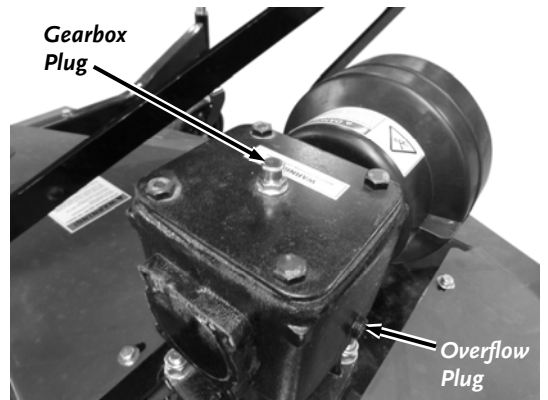

Figure 38
1. Remove the Gearbox Plug in the top of the Gearbox using a 17mm Wrench (Figure 38).